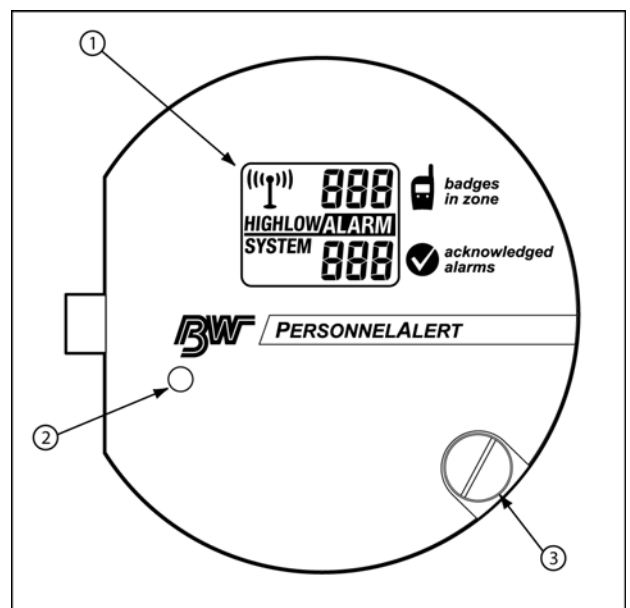

Figure 2. Control Bay
- Figure 2 and Table 3: Control Bay (describes the base station control bay components).